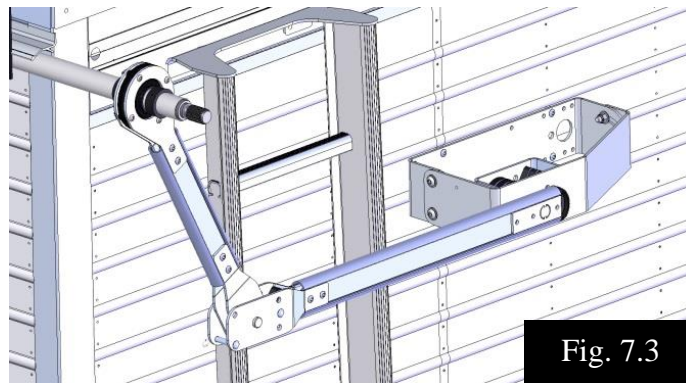

Fig. 7.3
7. Rotate the arm up until the ball socket assembly can be slipped onto the roll tube as shown in figure 7.3. The bushing may have to be tapped with a rubber mallet to get it past the weld on the spline shaft.
8. Tighten the fasteners to hold the bracket in place. It will appear as shown in figure 7.3.
10. The finished assembly should look like figure 7.3 when seen from the rear of the trailer.